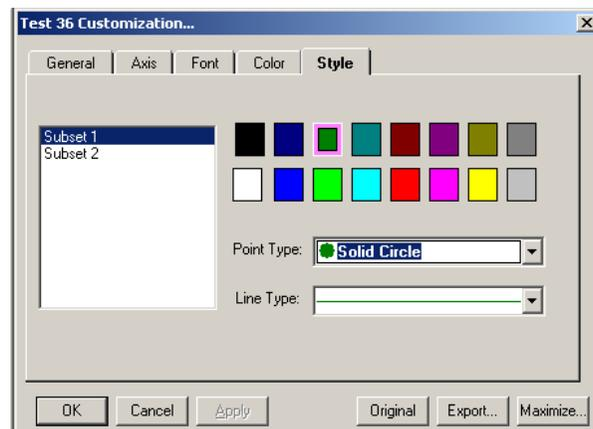

Figure 51 Customization Dialog Box—Style Tab
- **Style Tab**—use the Style tab for control of subset color, subset line type, and subset point type. Subset 1 = line type, and Subset 2 = data point. See Figure 51.